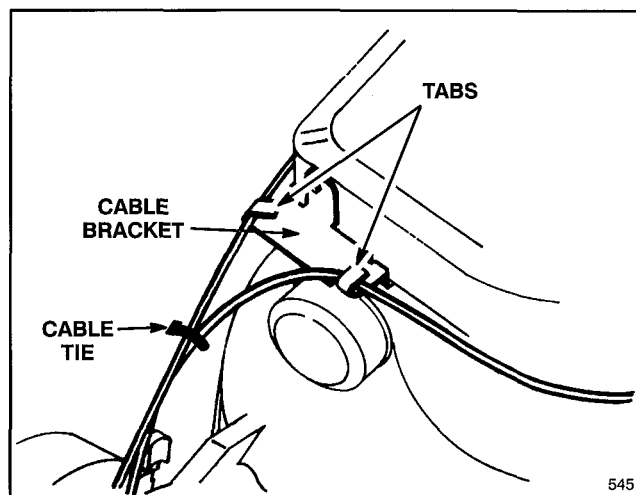

Figure 3
7. Make sure control cables are retained in tabs on cable bracket attached to rear of engine (Fig. 3). Fasten a cable tie around control cables as shown in Figure 3.